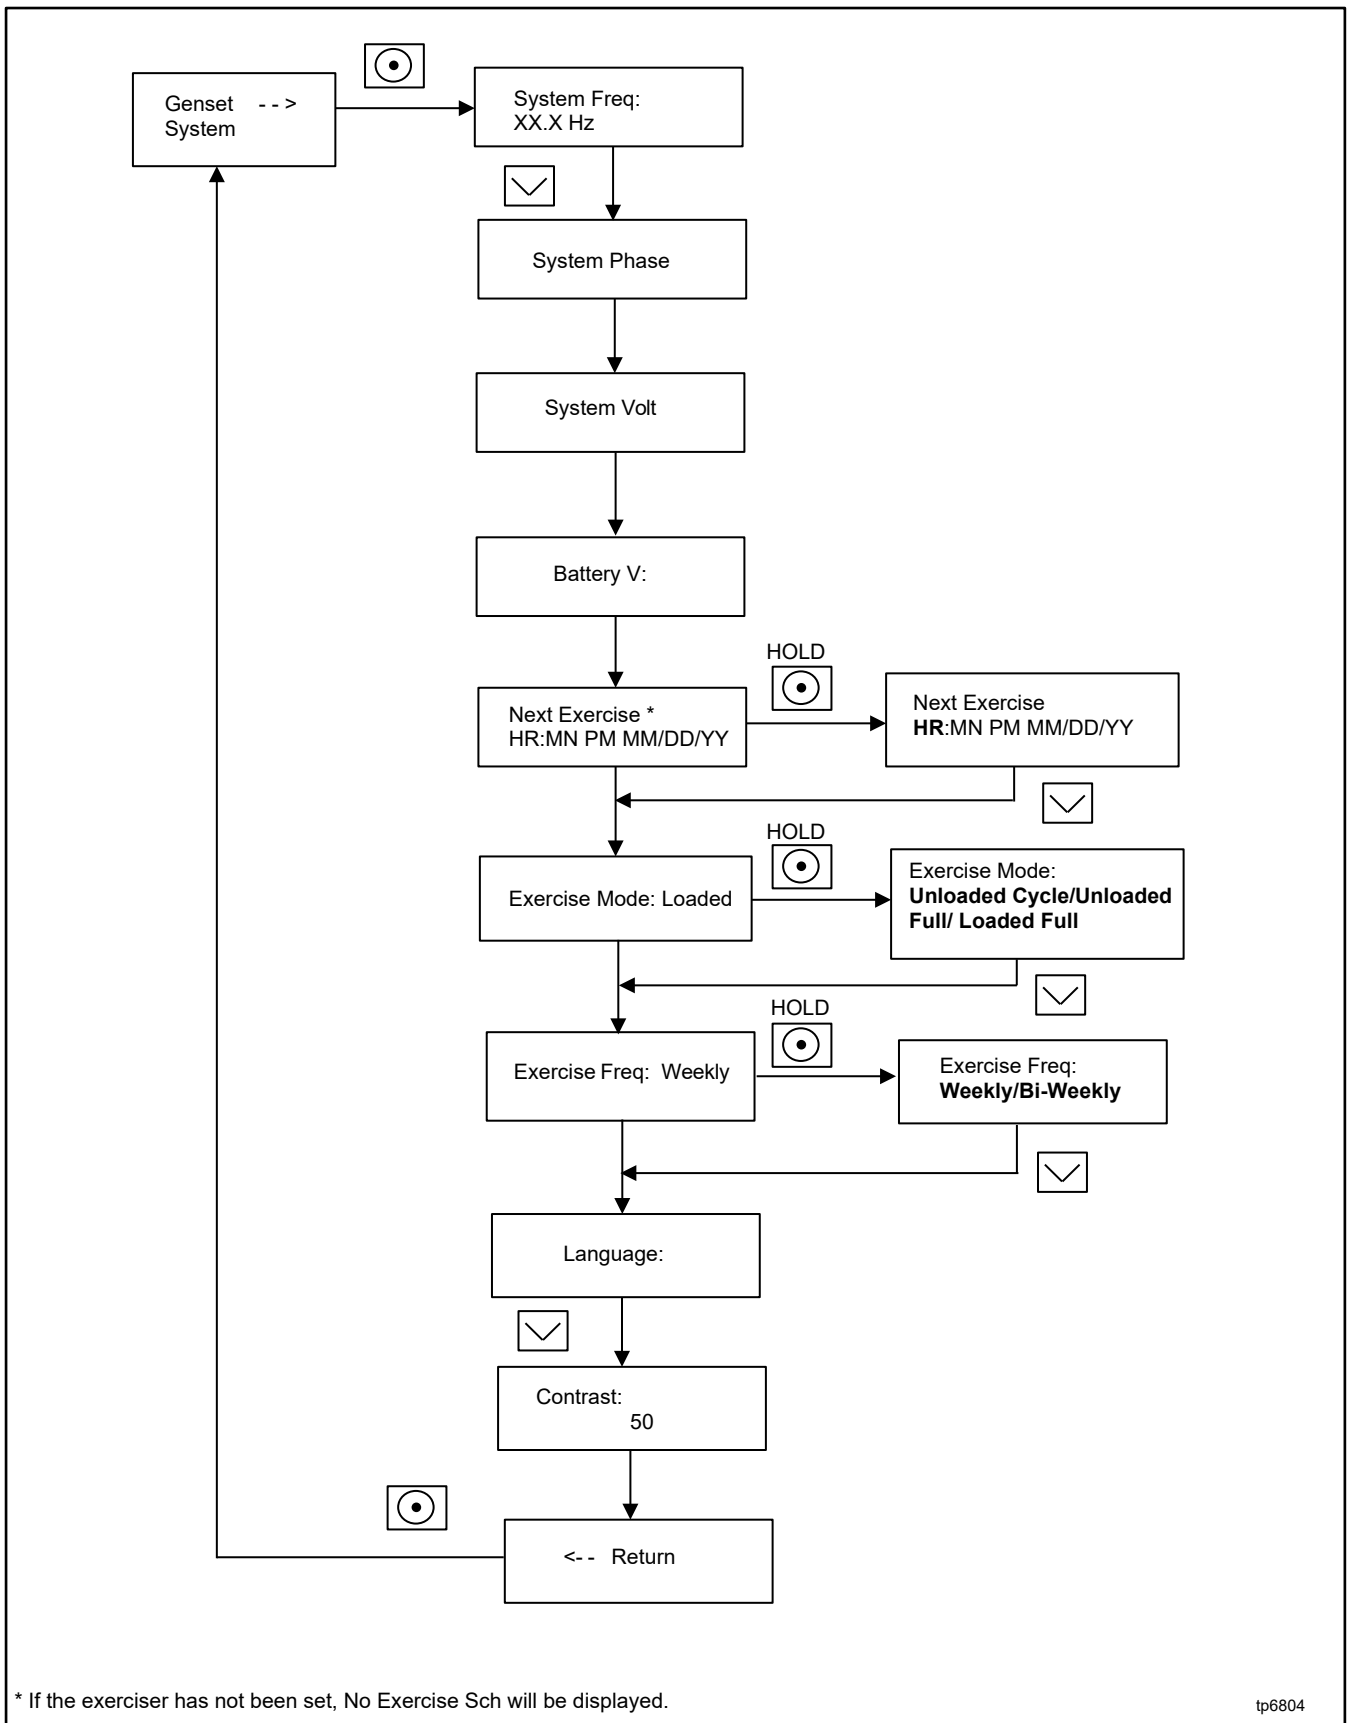

Figure 22 Procedure to Set the Exerciser on the RDC2 Controller
Follow the procedure below and see the flowchart in Figure 22 to set the exercise time and date, mode, and frequency.
4. Press the Select button to enter the Genset system menu. See Figure 22.
12. If the generator set is connected to a Model RXT transfer switch, the exercise can be changed to a loaded exercise. Set the Exercise Mode to Unloaded Cycle, Unloaded Full, or Loaded Full (RXT ATS required) as shown in Figure 22. Unloaded Cycle is recommended. See the Unloaded Cycle Exercise with Complete System Diagnostics sections through Loaded Full-Speed Exercise (with RXT only) for information about the exercise modes.